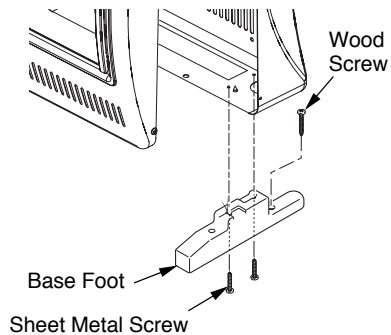

Figure 13 - Installing Base Feet
2. Align holes in base foot with mounting holes on bottom of cabinet (see Figure 13).
- Reposition heater with base feet over holes. Secure base to floor with wood screws. See Figure 13, page 11.